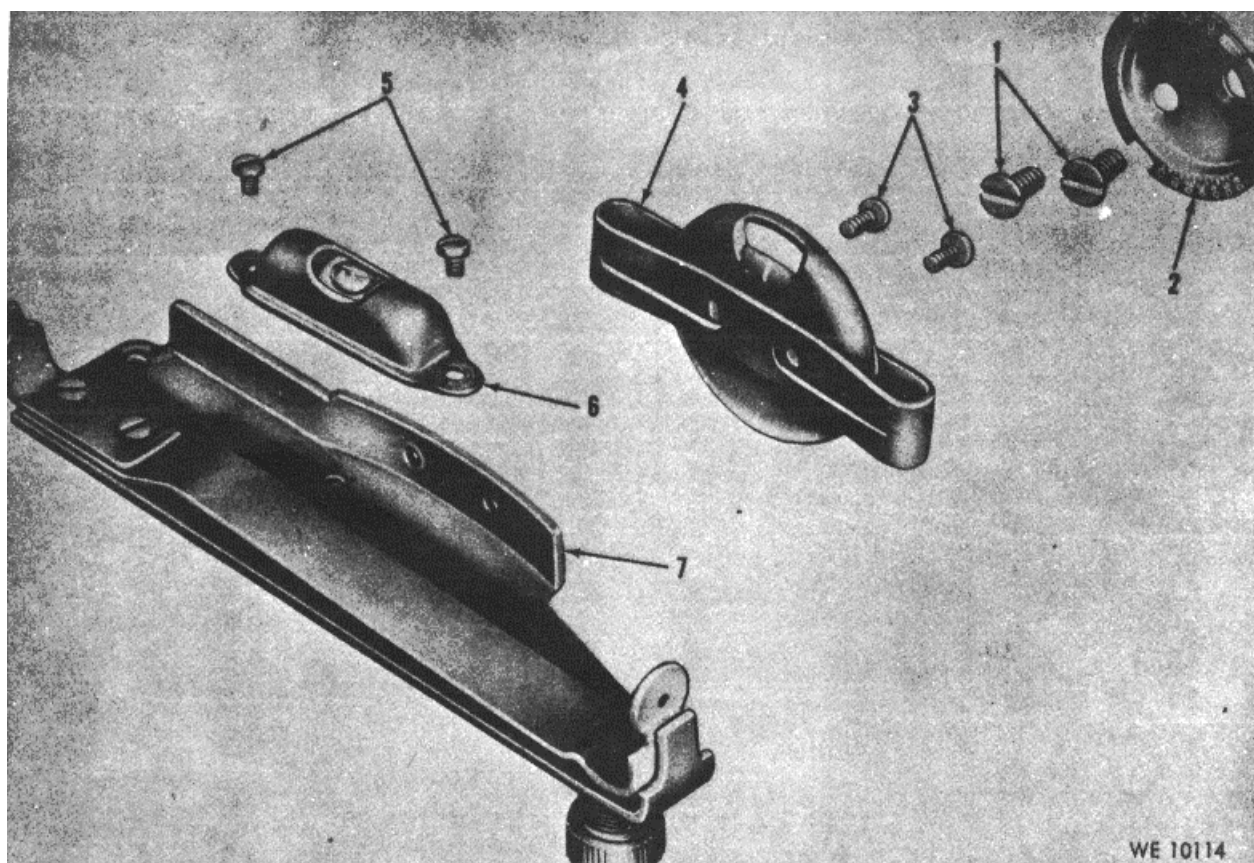
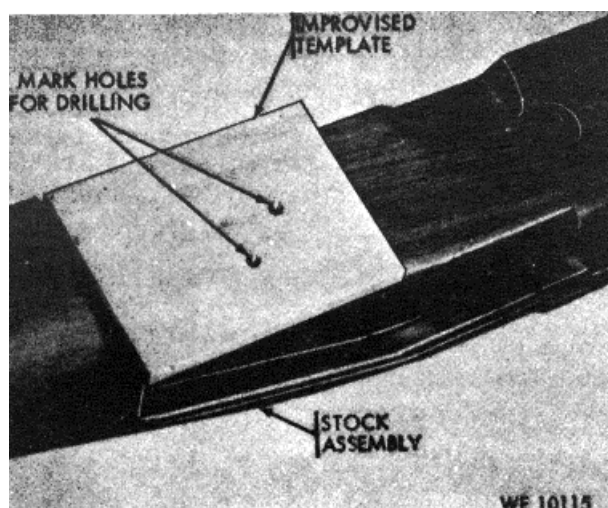

Figure 10-2. Grenade launcher sight-exploded view.
Figure 10-3. Using template to drill holes in stock assembly.
b. To prepare a stock for installation of the grenade sight mounting plate (fig 10-2), drill two holes (fig 10-3) on the left side of the stock. Use improvised template (fig 10-4) for marking the exactness of holes. Drill the holes with drill No. 29 (0.1360) inch.
Refer to figure 10-2.